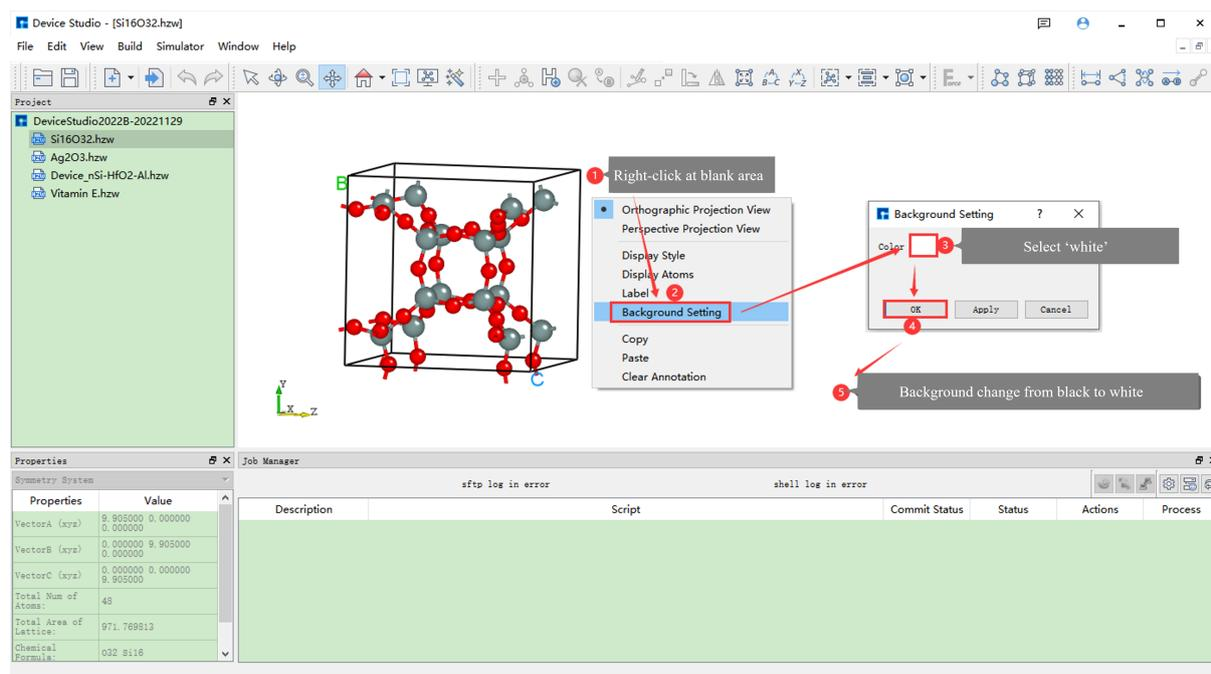

fig. 8.1: Operation Interface for Changing the **Background Color** of Si16O32 Crystal Structure Display from **Pure Black** to **Pure White**
1. Method One: When a structure (e.g., Si16O32 crystal structure) is already displayed in the Device Studio main interface, as shown in fig. 8.1, this is the operation interface for changing the **background color** of the Si16O32 crystal structure display from **pure black** to **pure white**.